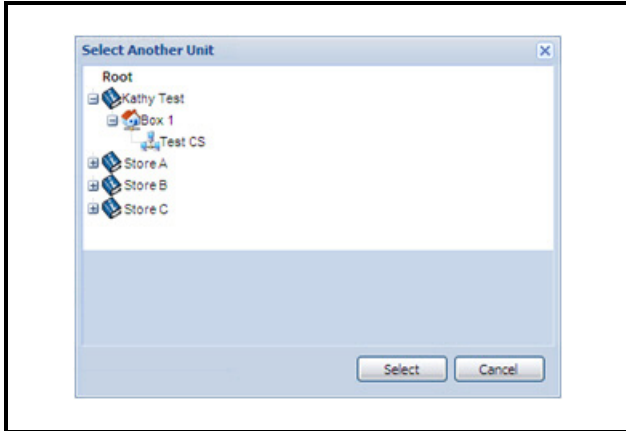

Figure 5-49 - Select Another Unit Pop-up Window
- **Restore from another Unit’s backup Image** - Restores the backup file from another controller to the current unit. To restore, click the **Select another unit to restore from** button. A *Select Another Unit* pop-up window (Figure 5-49) opens and displays the navigation tree. Choose the unit where the current unit will restore from. Expand the navigation tree down to the Unit level, select the radio button of the Unit, and then click **Select**. After configuring